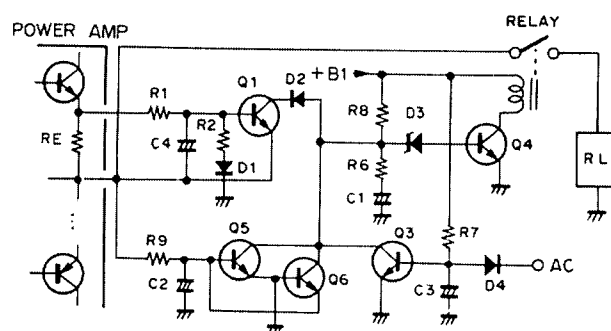

Fig. 4-13 Protection circuit
With reference to Fig. 4-13 when the power supply is turned on, Q3 turns off due to -B1 (The time constant of the -B1 circuit is very small.). If there is no input (DC) on Q5 and Q6, they will be off, and the timing capacitor C1 charges up through R8 and R6, and thus Q4 turns on. When Q4 conducts, the relay operates, and the output muting on the power amplifier will be removed.